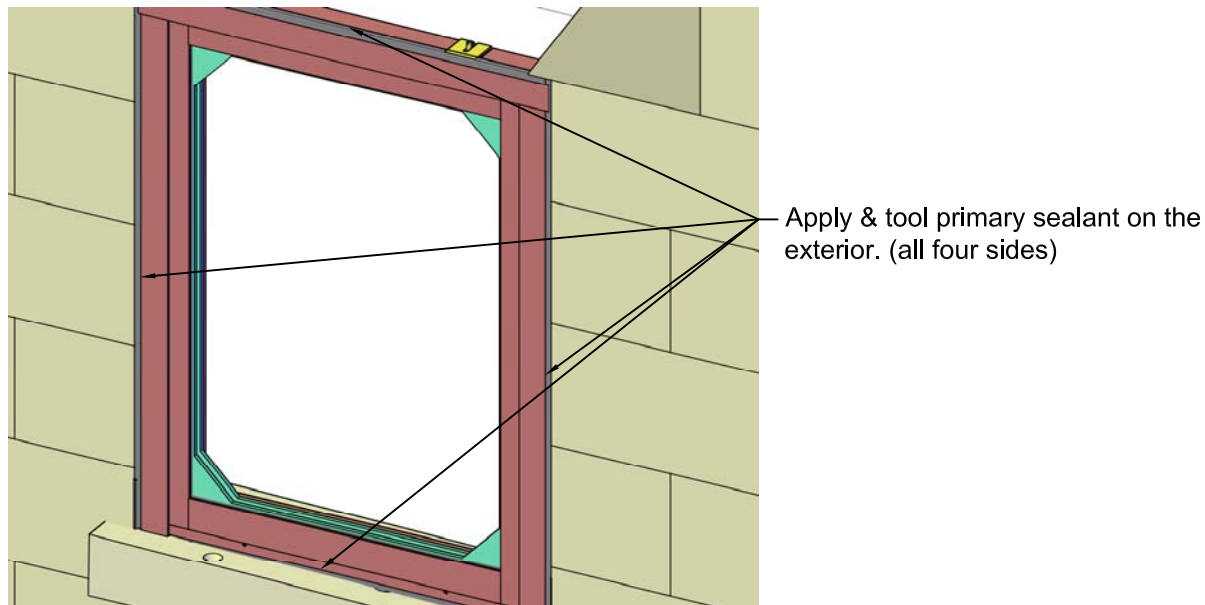

Fig. 21 - Viewed from Building Exterior
15) Apply primary sealant to exterior sides & tool sealant. See Fig. 21 & 22